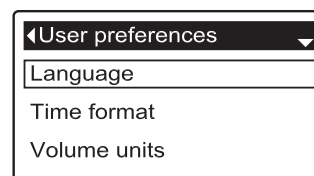

FIG. 43
3. Press the SELECT (O) button to display the User preferences menu (See Figure 43).
7. Press the SELECT (O) button. The display will go back to the User preferences menu (Figure 43).